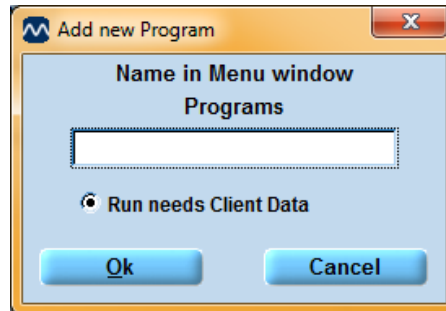

Figure 22
1. The following window will appear (Figure 22):